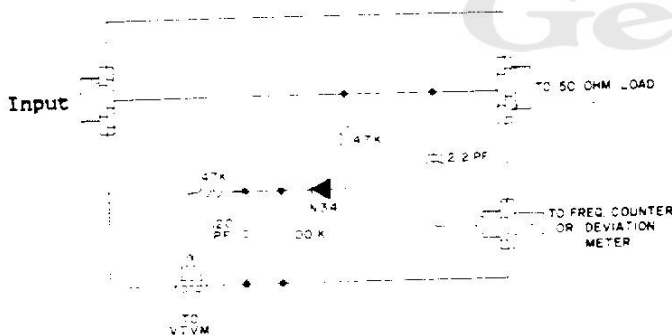

Figure 4-5. Relative Output Indicator
- a) Power Meter, 50 watts @ 50 MHz, or relative output indicating device (Figure 4-5) with 50-ohm load.
1. Attach a 50-ohm dummy load to the transceiver RF-output connector J103 through a power meter or relative output indicating device (Figure 4-5).
5. If the relative output indicating device of Figure 4-5 is used, connect VTVM DC probe to the connector labeled "VTVM," otherwise, observe the wattmeter or other output indicator.
1. With relative output indicator and 50-ohm load still connected to ant. connector J103, connect a deviation meter to appropriate terminal on relative output indicator (Figure 4-5).
4. Rotate Mic. Gain pot R219 (MG) to approximate center of its rotation.
6. Adjust Mic. Symmetry pot R216 (MS) until displayed audio limits evenly on top and bottom.